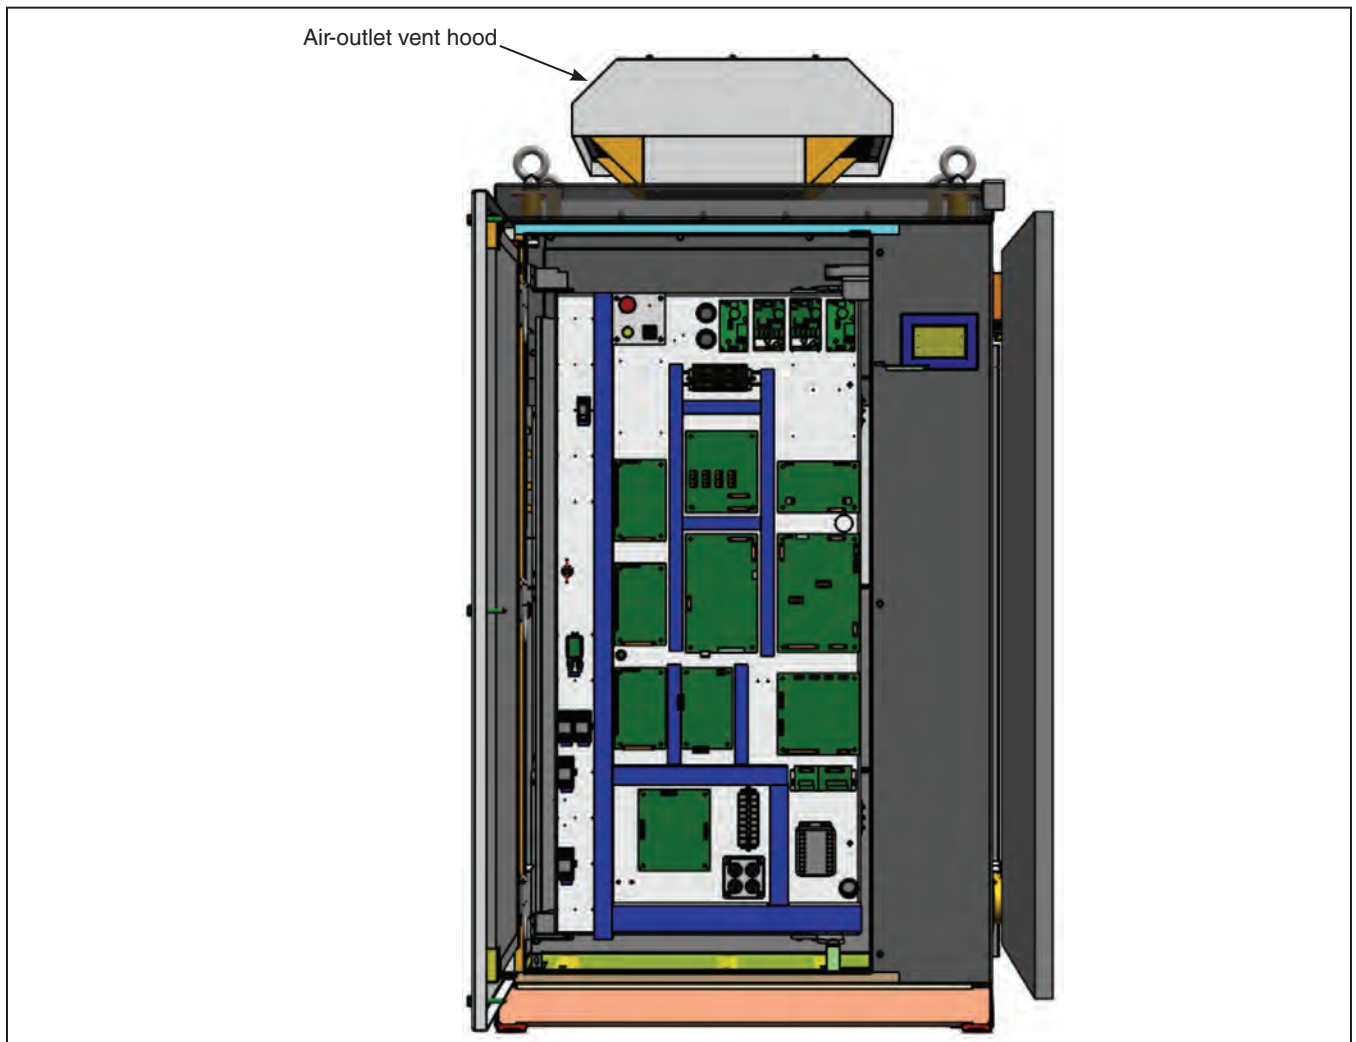

Figure 25. Location of the air-outlet vent hood on top of the control bay.
- Inspect the air-outlet vent hood at the top of the control bay. Clean any debris or obstructions that can restrict air flow going out of the PureWave UPS System. See Figure 25 for the location of the air-outlet vent hood.